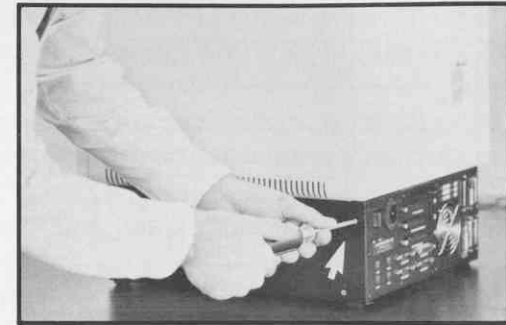

Figure 72 Phillips Screw Installation
- 5.5 Align the chassis with three (3) screw holes on each side of the workstation. Install six (6) Phillips screws as shown in Figure 72 to fasten the chassis and workstation.